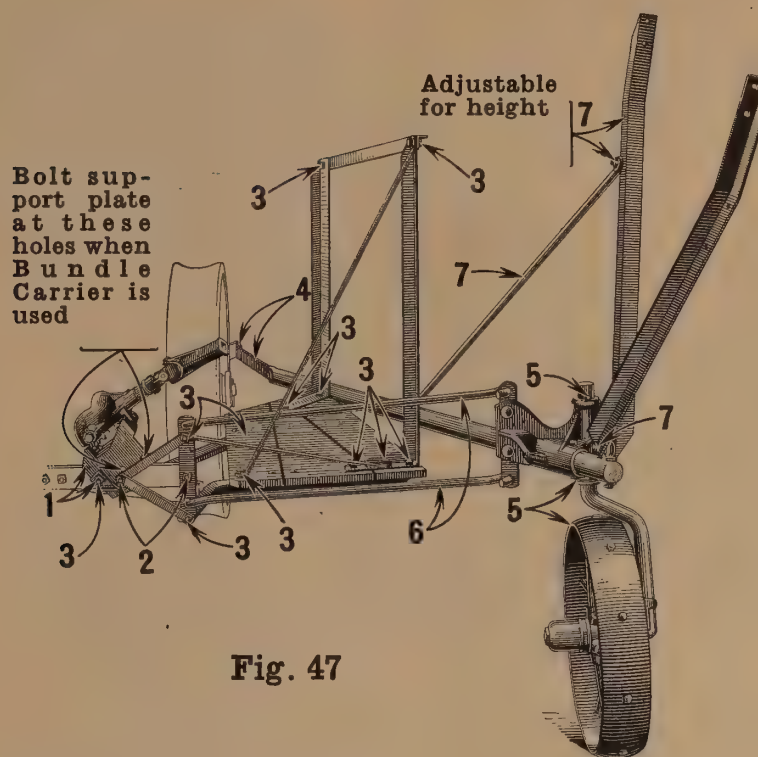

Fig. 47
3. (Fig. 47.) Bolt operator's platform and hand rail to Main Frame Rear Sill and to parallel bar, as shown.
4. (Fig. 47.) Bolt Elevator Pull Pipe Bar to Tractor Hitch Connection with longer bolt furnished.
5. (Fig. 47.) Secure Caster Wheel Axle in Bracket on Pull Pipe with cotter—washers go **below** and **above** bracket—grease axle and wheel.
6. (Fig. 47.) Hook Parallel Rod (hooks to **rear**) into Parallel Bar on Pull Pipe Bracket and secure opposite ends of rods in Parallel Bar on binder with cotters.
7. (Fig. 47.) Bolt Elevator Bottom Supporting Angles to eyebolt at rear end of pull pipe. Hook round brace into pull pipe and bolt it to front supporting angle.